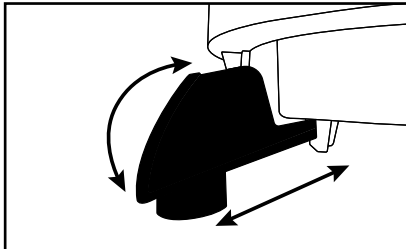

Fig. 1
- 1) Insert the pulp container **6** into the appropriate holder on the juice container **5**. The juice outlet **11** must be fitted opposite. First insert it with the hook into the small opening on the juice container **5**, then fold it up and press it into the holder (see Fig. 1).
- Remove the juice outlet **11** from the juice container **5** for cleaning (see Fig. 1).